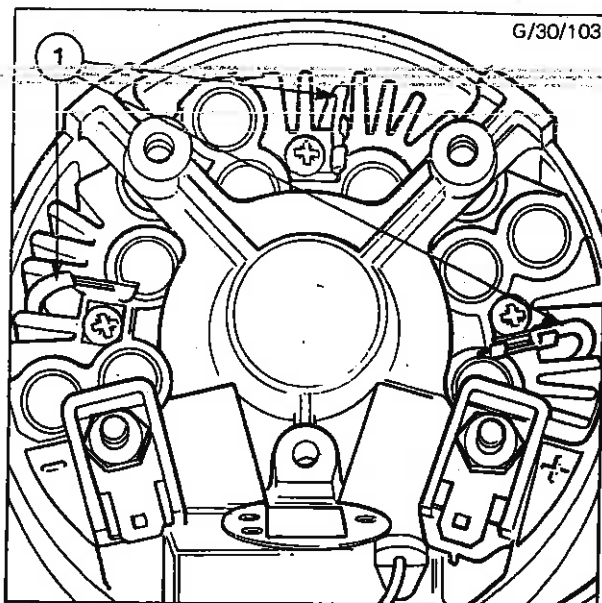

Fig. 64 - Removing Stator Terminations
9. Unsolder the three stator phase leads (1) from the heat sink terminal tags, (DO NOT REMOVE TAGS FROM HEAT SINKS) and separate the slip ring end shield from the stator, using a hide faced mallet if necessary - see Fig. 64.